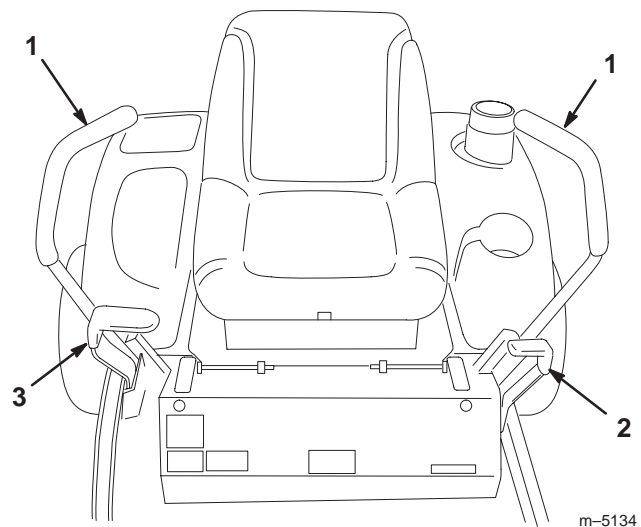

Figure 4
1. Move the motion control levers (Fig. 4) out to the neutral lock position.